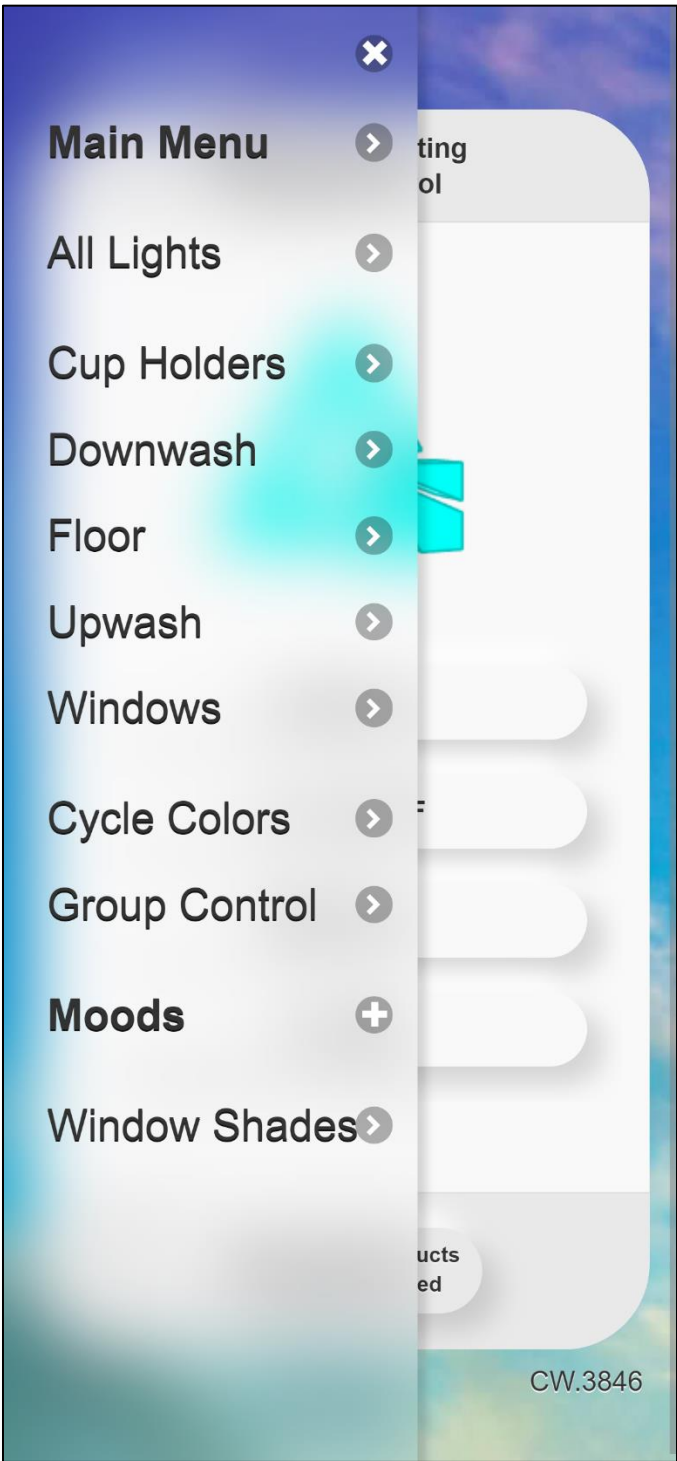

Figure 8-4 - Prizm App Slide-out Menu
8.6.4 Utilizing the PED with Elliott App displayed, select Menu by touching the Menu icon at the top left corner of the App (Figure 8-4).
- 8.7.6.4** Using either Wi-Fi access, select the Menu Icon (top left corner of the page), (Figure 8-4).